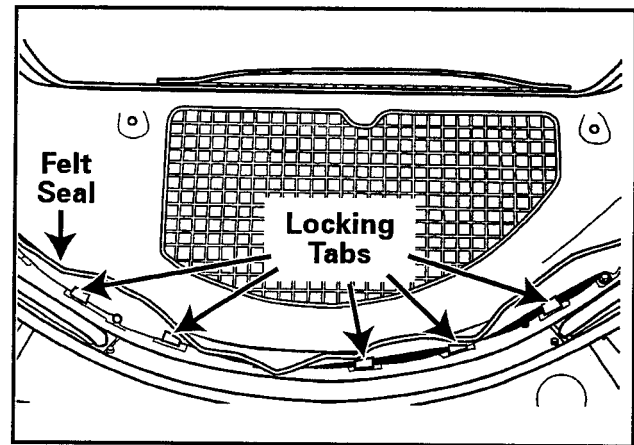

Figure 6-7
3. Remove the old felt seal by prying the locking tabs up with a flat blade screwdriver, (*See Figure 6-7*).